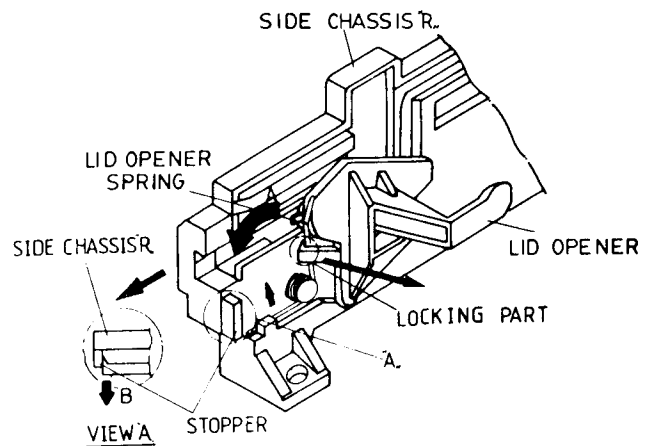

Fig. 20
4. After removing the lid opener spring, remove the lid opener pulling the locking part in the direction of the arrow. (Fig. 20)